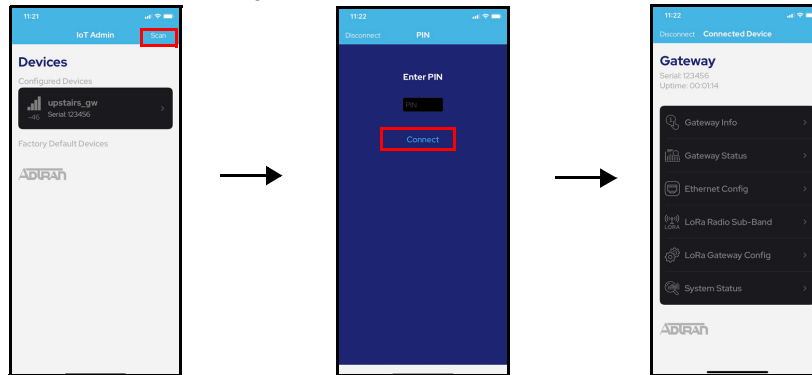
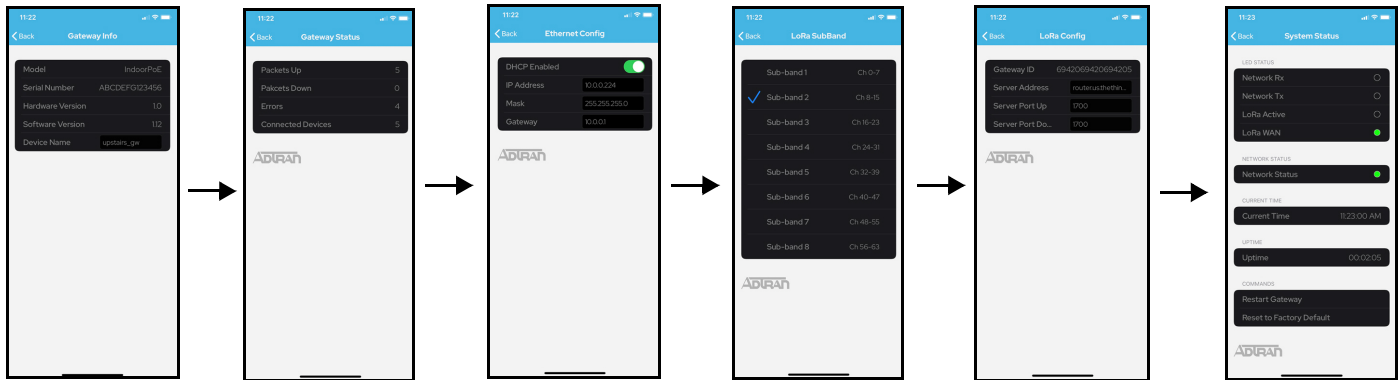

Figure 5. Bluetooth LoRaWAN Device Discovery
Figure 6. LoRaWAN Management App
4. To connect to a discovered device, select the device from the list, enter your PIN when prompted and then select **Connect** (as shown in Figure 5). Once the connection is complete, the device information and configuration is accessible from the **Connected Device** menu.
5. Once you have connected to the LoRaWAN gateway using the LoRaWAN Management App, you can access the configuration, device information, power settings, and device status information from the LoRaWAN Management App directly. Each menu shown in Figure 6 is available from the **Connected Device** menu (as shown in Figure 5 above).